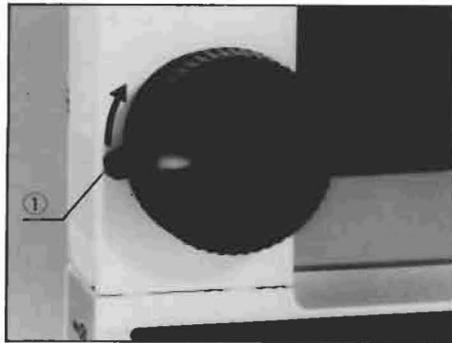

Fig. 18
The lever ① is provided to prevent possible contact between specimen and objective as well as to simplify coarse focusing. The lever is locked, turning it in the direction of the arrow in Fig. 18, after coarse focus has been accomplished. This is convenient for liquid application or change of specimens, too, since it prevents further upward travel of the stage by means of the coarse adjustment knobs, and provides a limiting stop if the stage is lowered and then raised again. The pre-focusing lever does not restrict fine focusing.